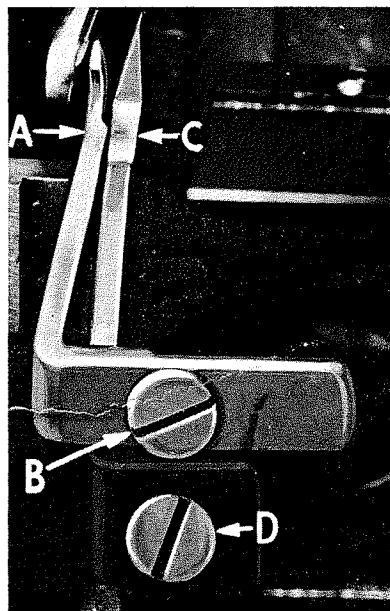

Fig. 5
Set rear needle guard (A, Fig. 5) as high as possible, without interfering with either lower looper or movement of lower knife holder, but still in position to deflect needles forward $.002-.004$ inch. Screw (B) is used to set rear needle guard. Make sure there is no interference between rear needle guard and lower looper.
Assemble front needle guard (C, Fig. 5). When lower looper is springing needles off back guard, set front needle guard as closely as possible to needles without touching. Use screw (D) to adjust and set front needle guard. After setting, make sure there is no interference between needle guards and differential feed dog.